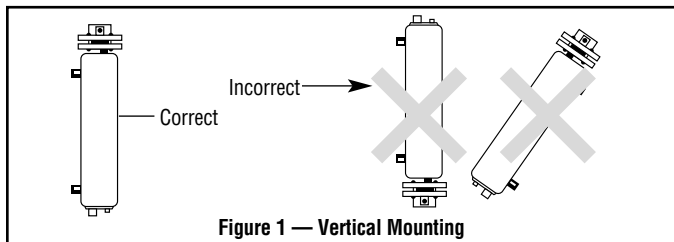

Figure 1 — Vertical Mounting
- Vertical mounting (axis of chamber vertical, see above drawing.) is preferred with terminal housing at top of heater (Figure 1).